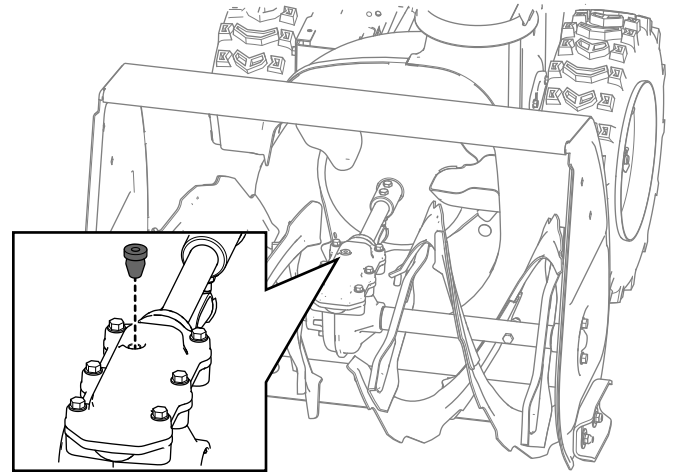

Figure 38
2. Clean the area around the pipe plug and remove the pipe plug from the gearbox (**Figure 38**).